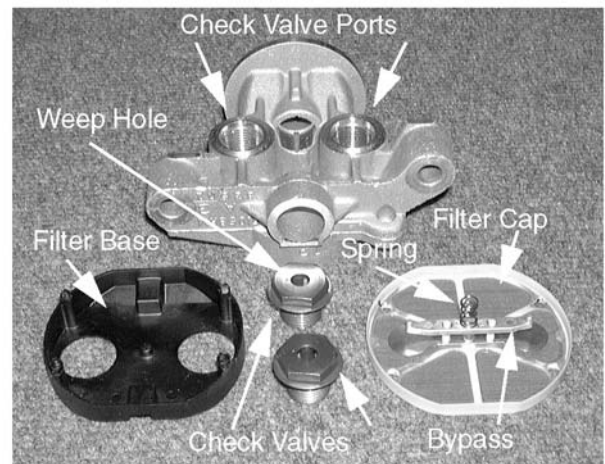

**Figure 6-66.**
31. Remove the filter cap from the filter base by squeezing the fasteners together using a pair of pliers, and prying up with a flat-blade screwdriver. See Figure 6-66.